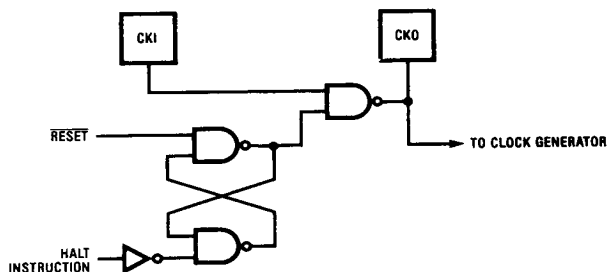

FIGURE 6a. Halt Mode—Two-Pin Oscillator
- a. Two-pin oscillator—(Crystal). See *Figure 6a*.